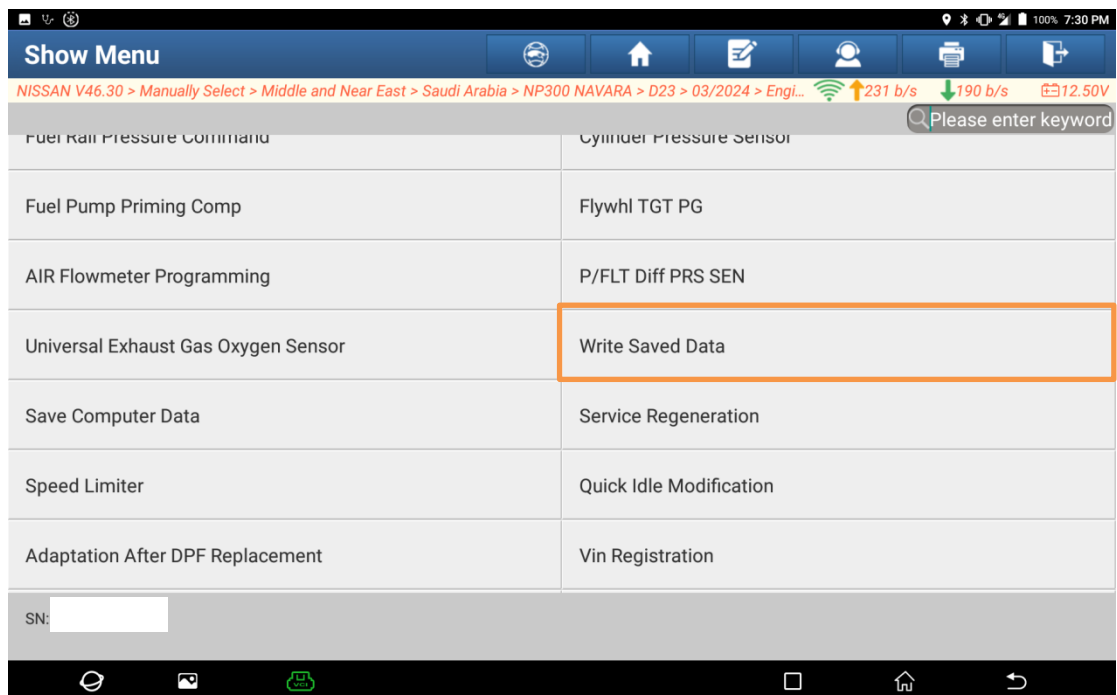

Figure 18
11. On the [WORK SUPPORT] menu interface, choose [Write Saved Data] (Figure 18).